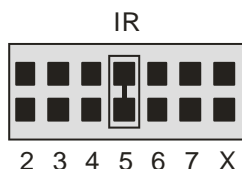

Figure 5. Interrupt level select jumper
In order to take advantage of high speed transfers, you must provide the board with an interrupt that is not used by other devices in your computer. Use the jumper block labeled IR (above the PC bus interface) to select an interrupt level between 2 and 7, or to disable interrupts (X). By default, the board is shipped with no interrupt level set (the jumper is in the 'X' position). Figure 5 shows the interrupt level set for IRQ 5.